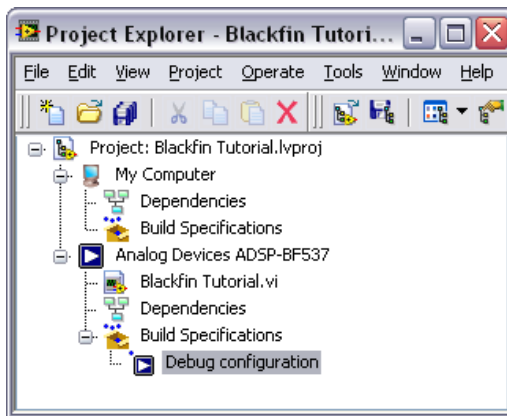

Figure 17. Renaming the Blackfin Build Specification
- Triple-click **VDK Application** and rename the build specification to **Debug configuration** as shown in Figure 17.